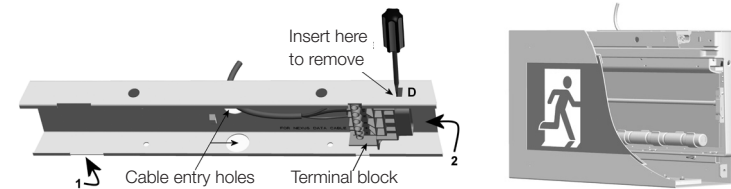

Figure 3: Frame insertion diagram
5. Remove the unit from the bracket by gently inserting a small screwdriver into the slot (at 'D' in figure 3) on the front of the bracket towards the right hand end of the fitting to ease the locking tab into the fitting and away from the bracket. The unit is then free to slide to the right along the bracket for about 50mm, at which time the slots line up and it can be lowered away from the bracket, allowing the two to separate.
8. Insert the side diffusers and appropriate pictograph inserts and tighten the thumbscrews by hand (inserts are fitted in between the clear polycarbonate outer panel and the opal acrylic inner panel). Attach the unit to the mounting bracket by aligning the top left hand end of the unit (the end without the protruding electrical connecting metal lugs) with the large cut-away slot towards the left hand end of the bracket. Slip the left hand end of the unit up into the slot in the left hand end of the bracket (step (1) in figure 3) and hold the unit horizontal to and parallel with the bracket. It should be approximately 50mm to the right of its final destination. Simply slide the unit (step (2) in figure 3) 50mm to the left along and into the bracket to engage the connection and the locking tab. Once in place, the unit cannot be removed from the bracket without the use of a tool (a small screwdriver) to push in the locking tab at 'D' in figure 3.